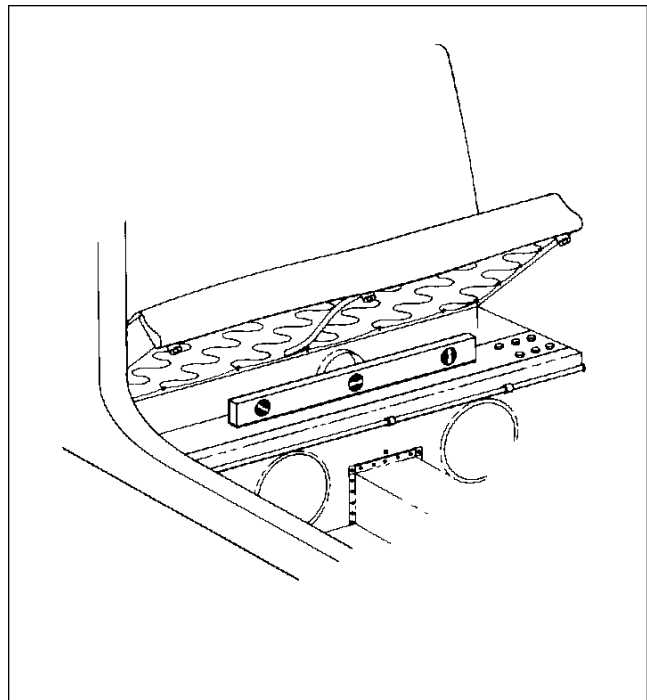

Figure 8-2. Leveling Laterally
- B. Laterally level airplane as follows (Refer to Figure 8-2):